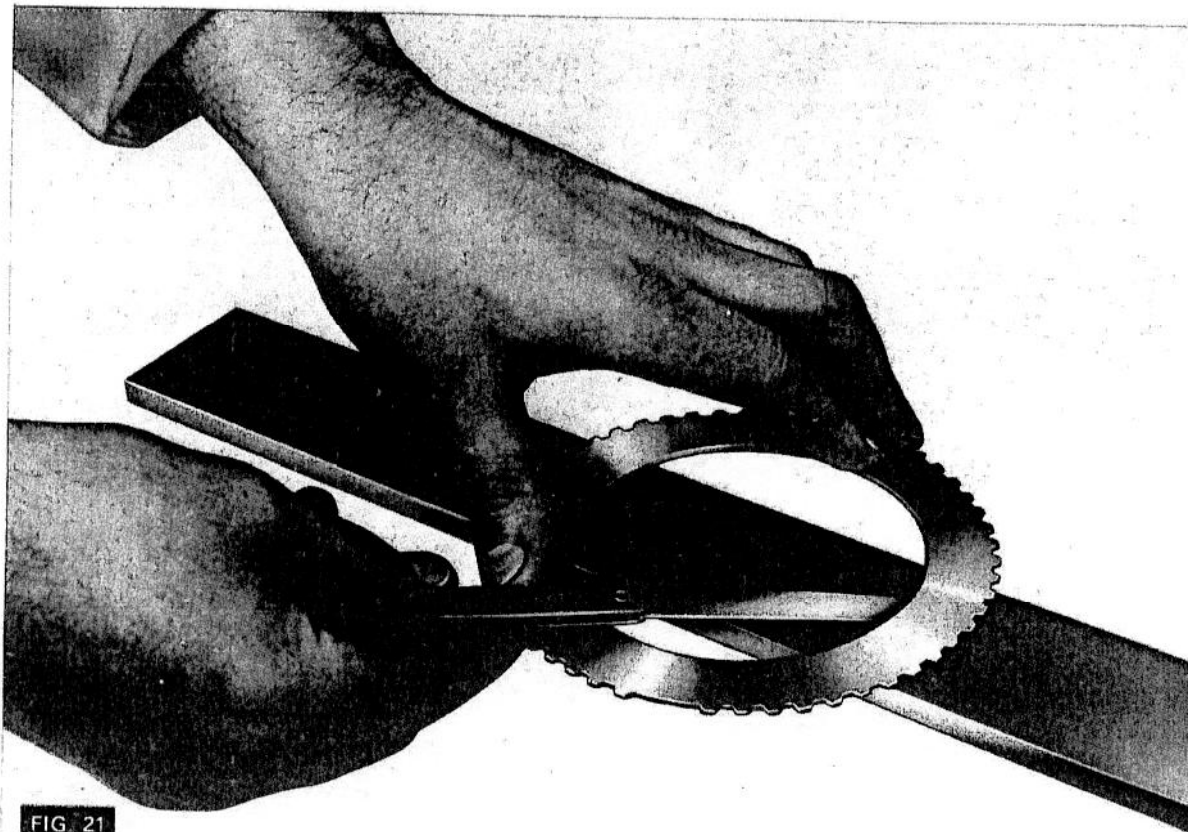

FIG. 21
1. Before reassembling the clutch packs, check the clearance of the steel drive plates. Place the plates on a flat surface with the concave face down. Insert a feeler gauge under the inside edge of the plate as shown in Fig. 21. The clearance must not be less than 0.005 in. - 0.007 in. (0.127 mm. - 0.177 mm.).